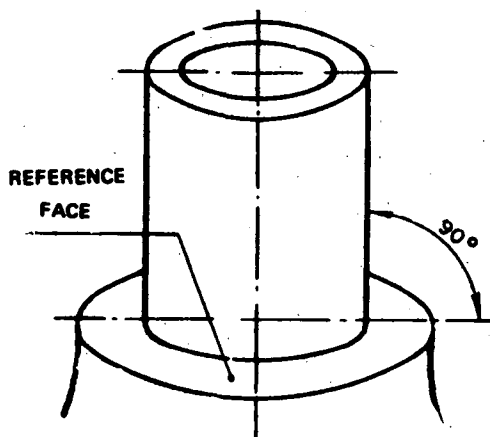

Fig. 3
- Align the bushing square with the reference face (Fig. 3).